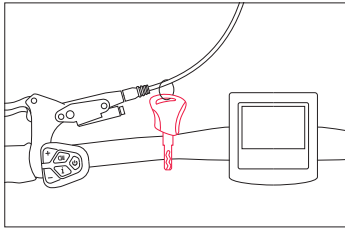

Figure 1
**Step 1:** Find the keys located on the handlebar (fig. 1) and remove them. If you cut them from the handlebars, be careful not to damage any of the wires.